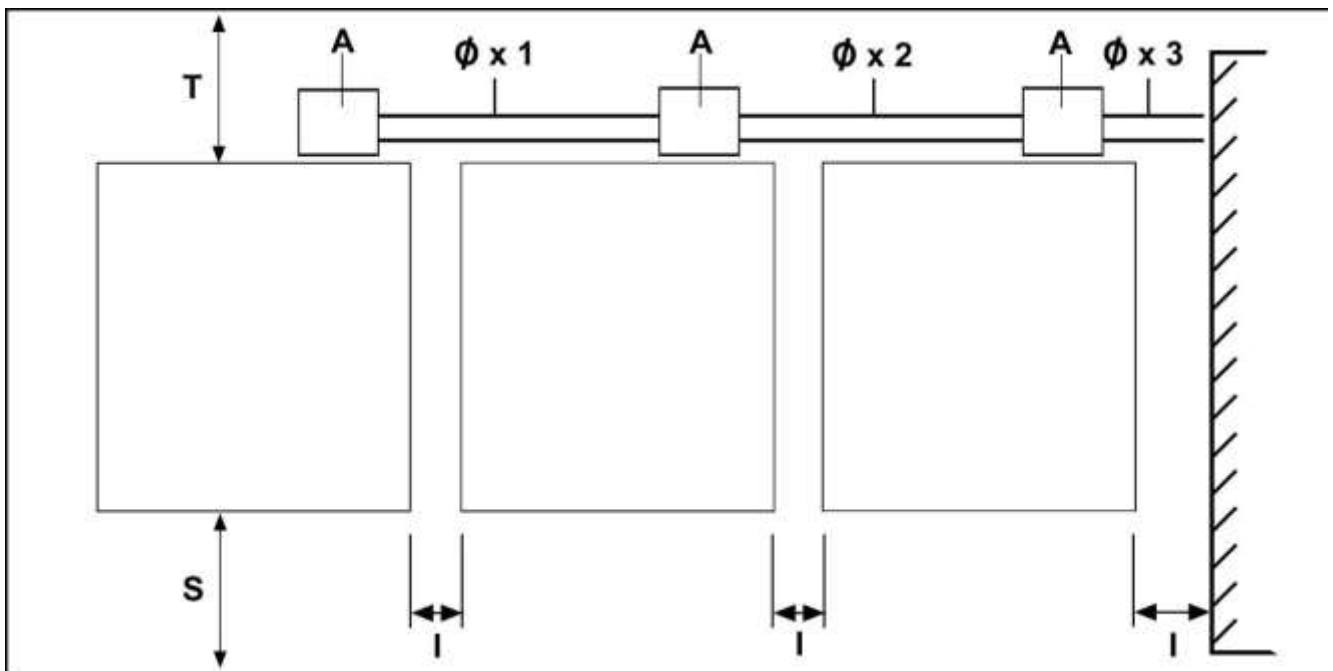

Fig. 2.4
The minimum distance between adjacent machines and the user and maintenance areas (values **I**, **S** and **T** of Figure 2.4) are specified on the table below.
**Positioning conditions (Fig. 2.4)**
Diameter of **B** manifold: refer to table on section 2.5 and Figure 2.4.